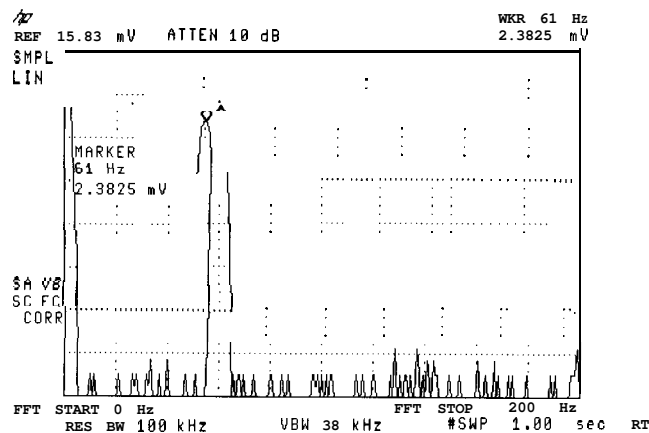

Figure 4-1. FFT Annotation
11. Press **(MEAS/USER)** and **% AM ON OFF** so that **ON** is underlined. The spectrum analyzer reads out the percent AM of the largest modulation frequency. An arrow indicates the signal being measured (see Figure 4-1). This measurement does not include all of the harmonics of the modulating signal.
7. Press **MEAS/USER** and **% AM ON OFF** so that ON is underlined. The spectrum analyzer reads out the percent AM of the largest modulation frequency. An arrow indicates the signal being measured (see Figure 4-1). This measurement does not include all of the harmonics of the modulating signal.